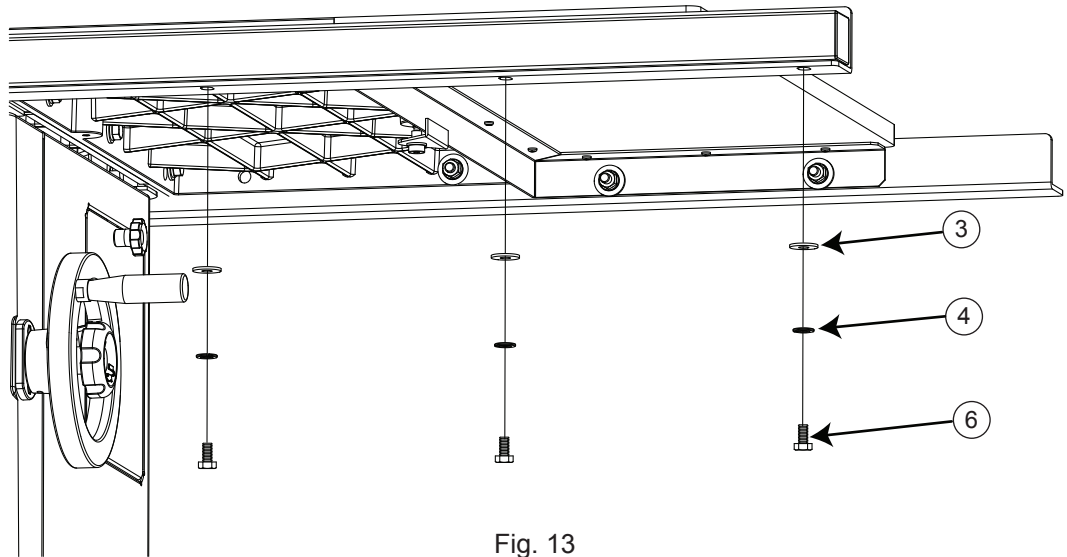

Fig. 13
13. Locate the main tube and remove seven M8x1.0x16 hex head bolts, seven M8x23x2 washers, and seven M8 lock washers from the fence assembly hardware pack. Position the main tube on the horizontal portion of the front rail with the rulers facing up and the 12 inch ruler on the left. The powder coated surfaces of the main tube and rail can be slick, so be careful that the main tube does not fall off the rail. Align the holes in the rail with the holes in the bottom of the main tube. Place an M8x23x2 washer and an M8 lock washer on each M8x1.0x16 hex head bolt and insert the bolts through the rail and into the threaded holes in the bottom of the main tube (see Fig. 13). Hand tighten the bolts; do not fully tighten them.